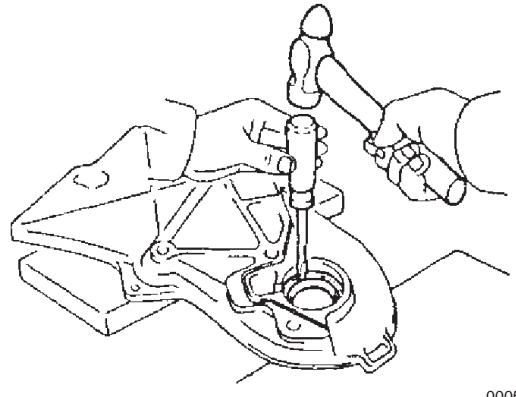

Figure 5-52
1. Tap out the oil seal using a screwdriver and a hammer (**Figure 5-52**).